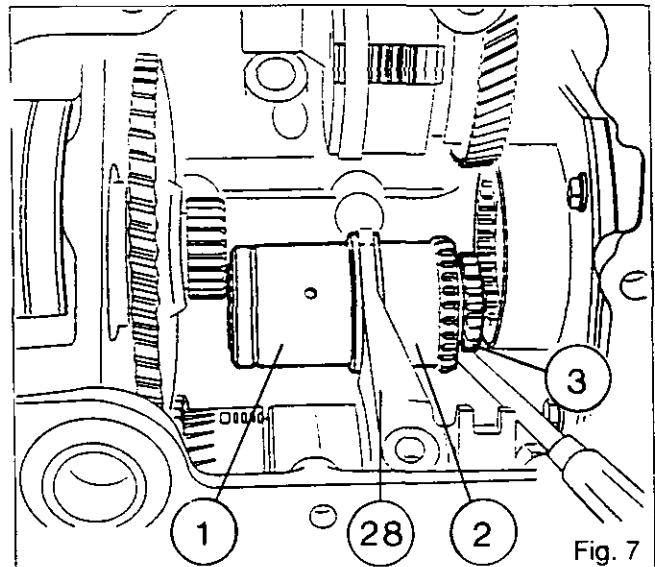

Fig. 7
14. Slide the sleeve (1) and the coupler (2) towards each other on the connecting shaft (3) (Fig. 7).
15. Move the sleeve assembly, connecting shaft and coupler to the outer LH edge, then withdraw it from the fork (28) (Fig. 7).
- Note: Mark the direction in which the sleeve is assembled (1) (Fig. 7).**
66. Remove the slider (18) (Fig. 7).